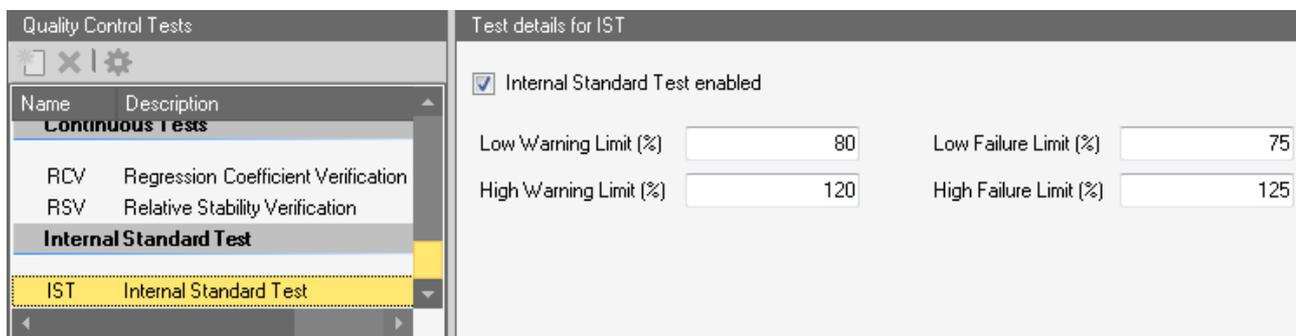

Figure 10-21. Quality Control: test details for IST
An Internal Standard test is offered in the Method Parameter Quality Control in Qtegra, see Figure 10-21.
3. Select the *Quality Control Test* you wish to define, for example. On the right, the corresponding **Test details** are shown, see Figure 10-21.